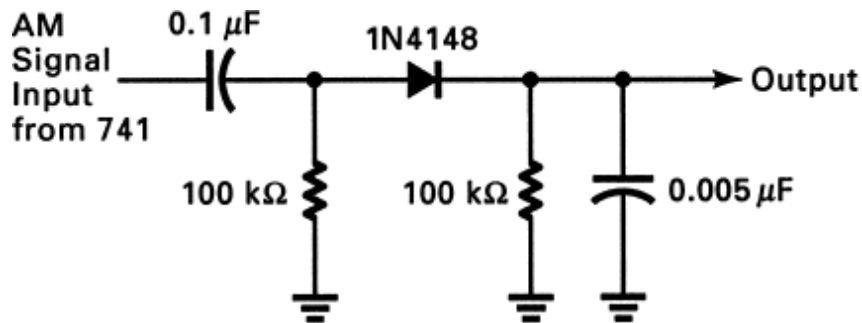

Fig. 4-12 Diode detector with filter.
5. Connect a 0.005- μ F capacitor across the diode detector load as shown in Fig. 4-12. Observe the diode detector output and sketch the output waveform. If the signal is distorted, reduce the modulating signal amplitude until the distortion is minimized.